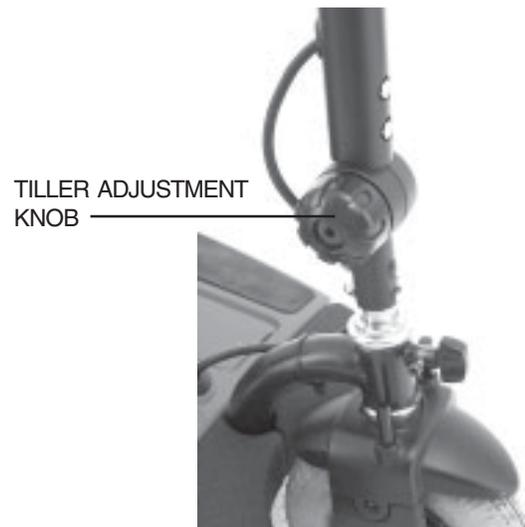

FIGURE 12. TILLER ADJUSTMENT
1. Turn the tiller adjustment knob anticlockwise to loosen the tiller. See figure 12.